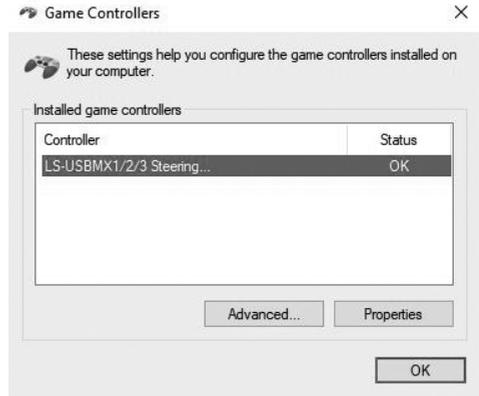
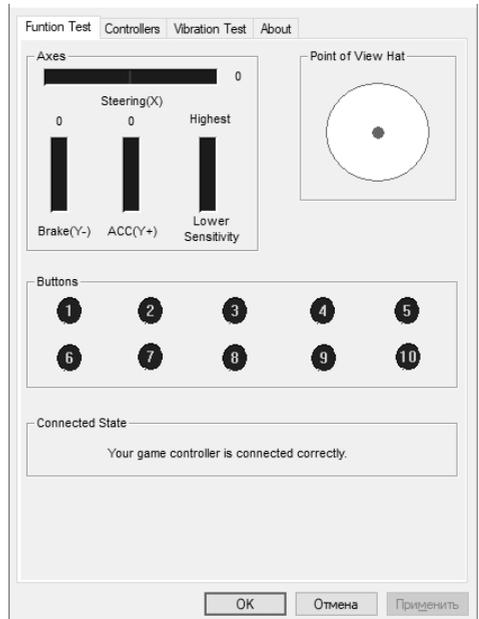

Fig. 6
Fig. 7
- Press «Properties» (Fig. 6) and on the display of your PC there will appear «LS-USBMX 1/2/3 Steering» (Fig. 7). Here you can check work of axes and keys.